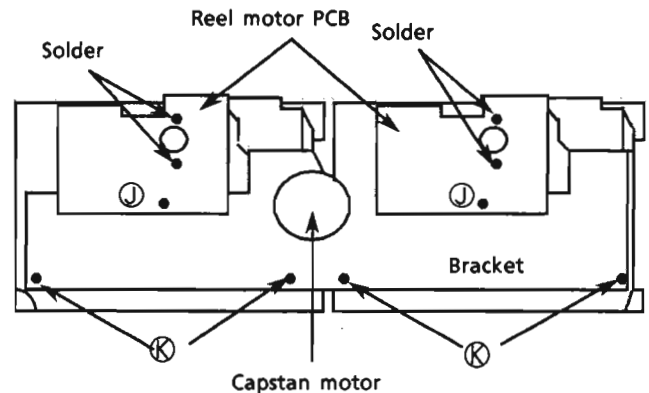

Fig. 13
3. Remove the 4 screws ⑤ fixing the bracket (Fig. 13).
3. Remove the screws ⊗ and the bracket (Fig. 13).